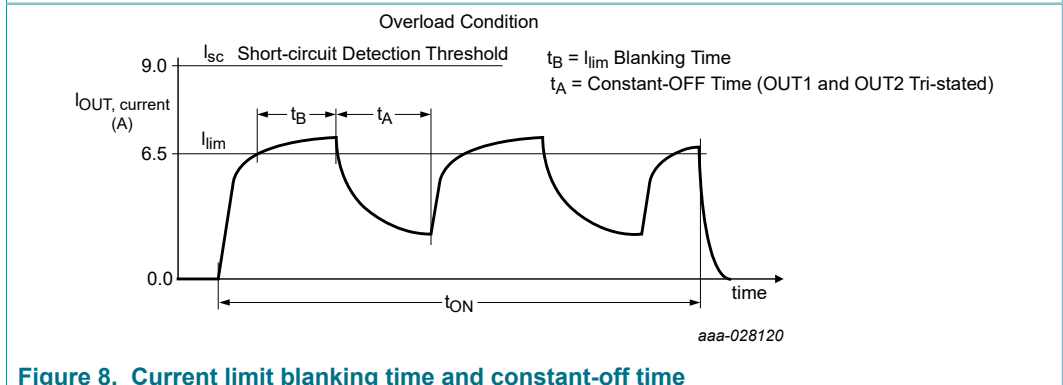
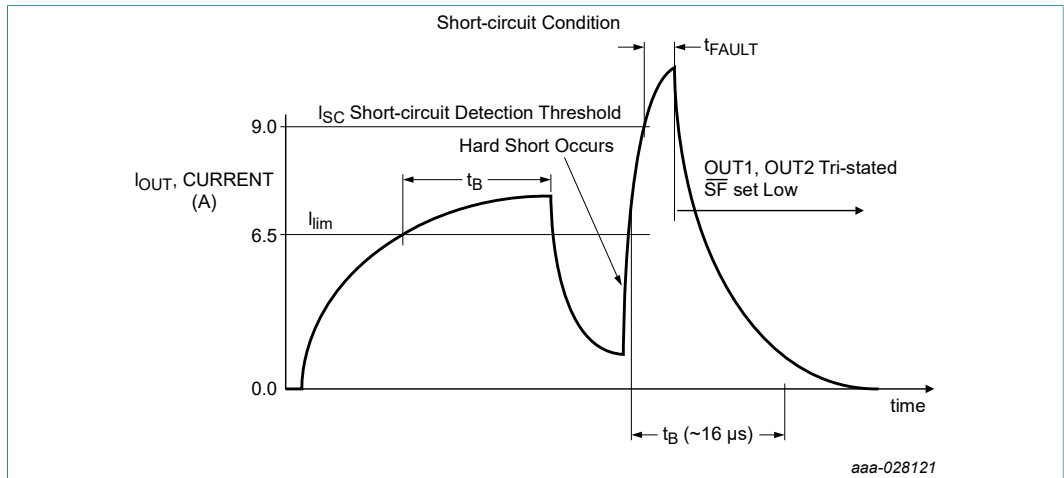

Figure 8. Current limit blanking time and constant-off time
Figure 9. Short-circuit detection turn-off time t_{FAULT}
- [8] Load currents ramping up to the current regulation threshold become limited at the I_{LIM} value (see Figure 8). The short-circuit currents possess a di/dt that ramps up to the I_{SCH} or I_{SCL} threshold during the I_{LIM} blanking time, registering as a short-circuit event detection and causing the shutdown circuitry to force the output into an immediate tri-state latch-off (see Figure 9). Operation in current limit mode may cause junction temperatures to rise. Junction